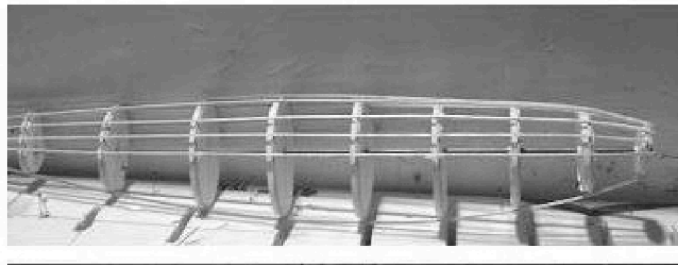

Figure 4
Step 5: Now comes the rewarding part. The jigged assembly allows me to pin down and glue in place the centerline side stringers, so at least I start with two perfectly straight stringers along the centerline of the model. After the top half of the stringers are installed, the assembly is pushed out of the foam base. By now, it's pretty rigid as seen in Figure 4 and the remaining stringers are added "in the air."